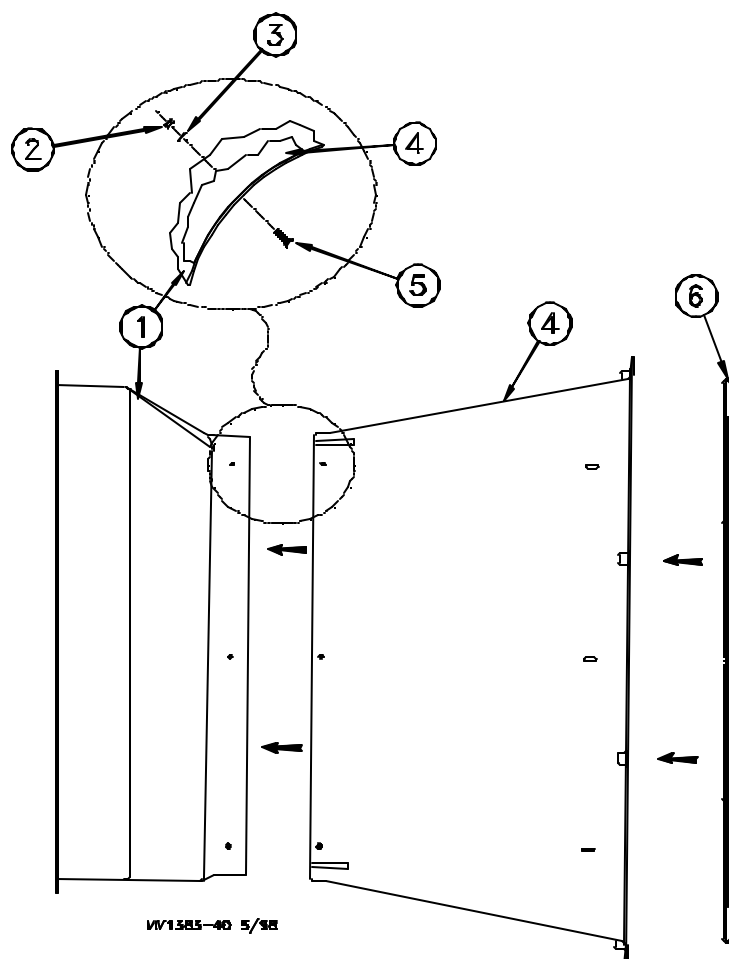

Figure 9. Cone Installation
1. Slide the Cone onto the Shroud—the Shroud fits inside the Cone. **See Figure 9.**